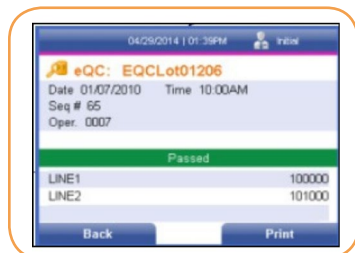

FIGURE 89
2. Use the right soft key on the keypad to select Show Details. The date and time the QC result was obtained is displayed, along with the sequence number, the operator, test and lot number, as well as the control result and if the result passed or failed (Figure 89).